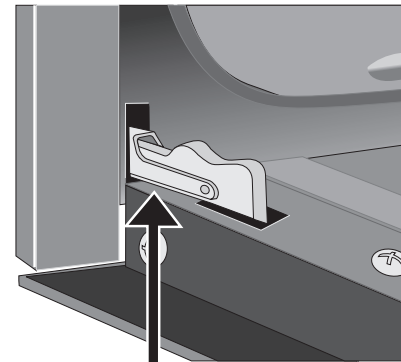
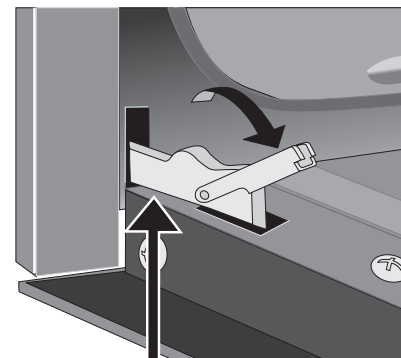

Figure 30: Door hinge locked
Figure 31: Unlocking door hinge
2. Pull up the lock located on each hinge support toward front of the oven until the lock stops. You may have to apply a little upward pressure on the lock to pull it up (Figure 30 and Figure 31).
4. Push the door hinge locks up toward and into the oven frame on both left and right oven door hinges to the locked position (Figure 30).